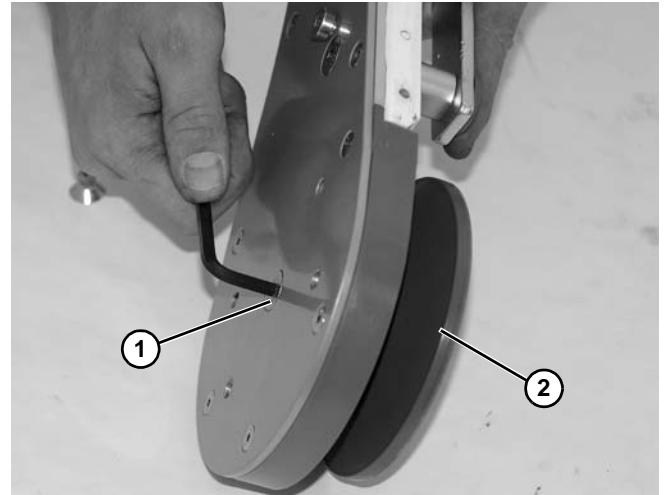

Figure 116
5. Remove flat head screw (**Figure 116, item 1**) and remove idler pulley (**Figure 116, item 2**) from idler head plate assembly.